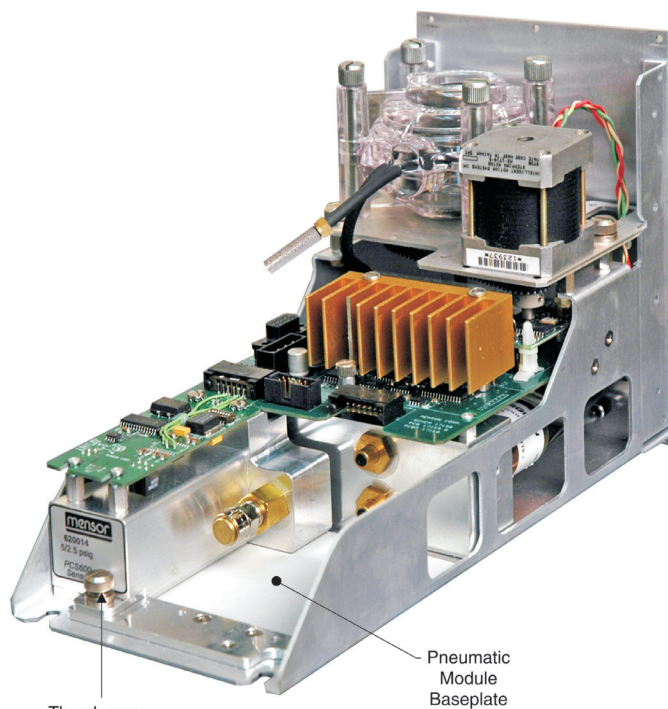
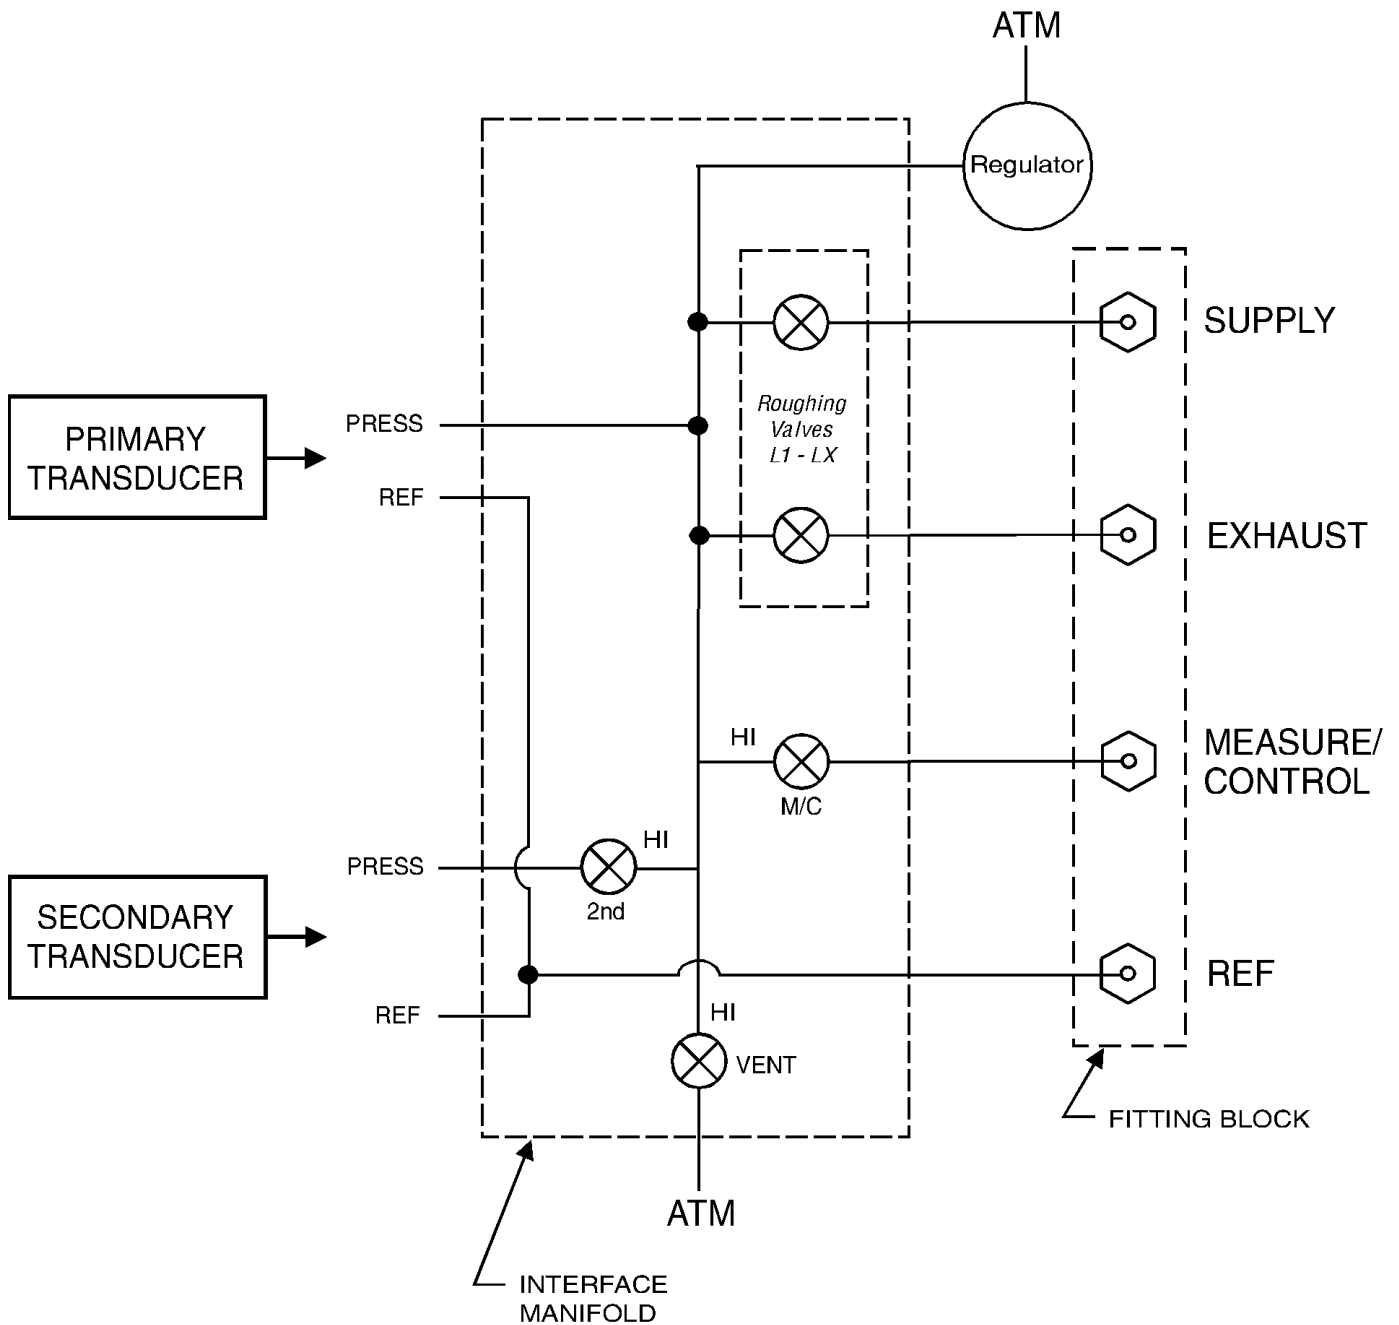

FIGURE 6.2 - PNEUMATIC MODULE, PUMP REGULATOR
FIGURE 6.3 - PNEUMATIC SCHEMATIC - PUMP REGULATOR
CAUTION! The following test feature is a powerful troubleshooting tool, but it incurs a dangerous potential for misdirecting high pressures. Study the pneumatic schematics (Figure 6.3) to understand the possible consequences of various pressure routings.
To get to the test screen press [Setup], [Controller], and [Test]. The pump regulator test screen allows control of the solenoid valves directly by the operator. Pressing the key labeled [Closed] or [Open] will toggle the associated solenoid between the open and closed states. As each key is pressed the key will change text and color, and the target solenoid will make an audible “click”. If a key changes color without the accompanying click it is an indication of a defective solenoid or a bad connection. Pressing the [+] or [-] key will actuate the pump and increase or decrease the system pressure respectively. The [speed] key allows adjustment of the relative rate at which the pump operates to increase or decrease pressure. The [%] key allows an adjustment of the duty cycle of the supply and exhaust valves. The Primary and Secondary labels show the pressure sensed at the respective transducers. The Rate [psi/sec.] label indicated the rate of change of the system pressure. See Figure 6.2 for the pump regulator pneumatic module. See Figure 6.3 for the pneumatic schematic for the pump regulator.
3. Unscrew the thumb screw holding in the transducer (Figures 6.2 and 6.7).